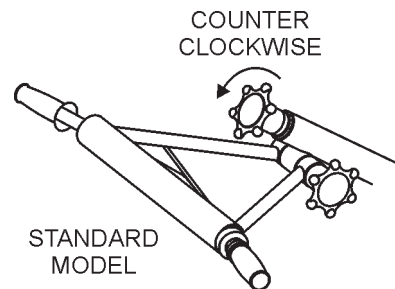
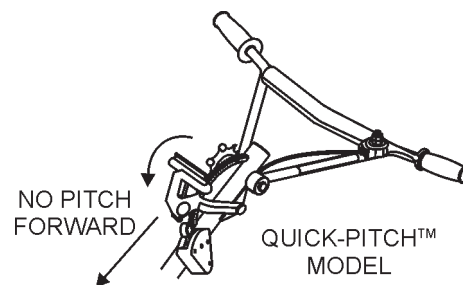

Figure 11. "No Pitch" Position (Standard)
Figure 12. "No Pitch" Position (Quick-Pitch™)
1. Expose the pitch cable to maximum by adjusting the handle pitch to the "no pitch" position. On the standard model turn the pitch control counter-clockwise, (Figure 11). On the Quick-Pitch™ model, pivot the pitch handle forward or no pitch (Figure 12).